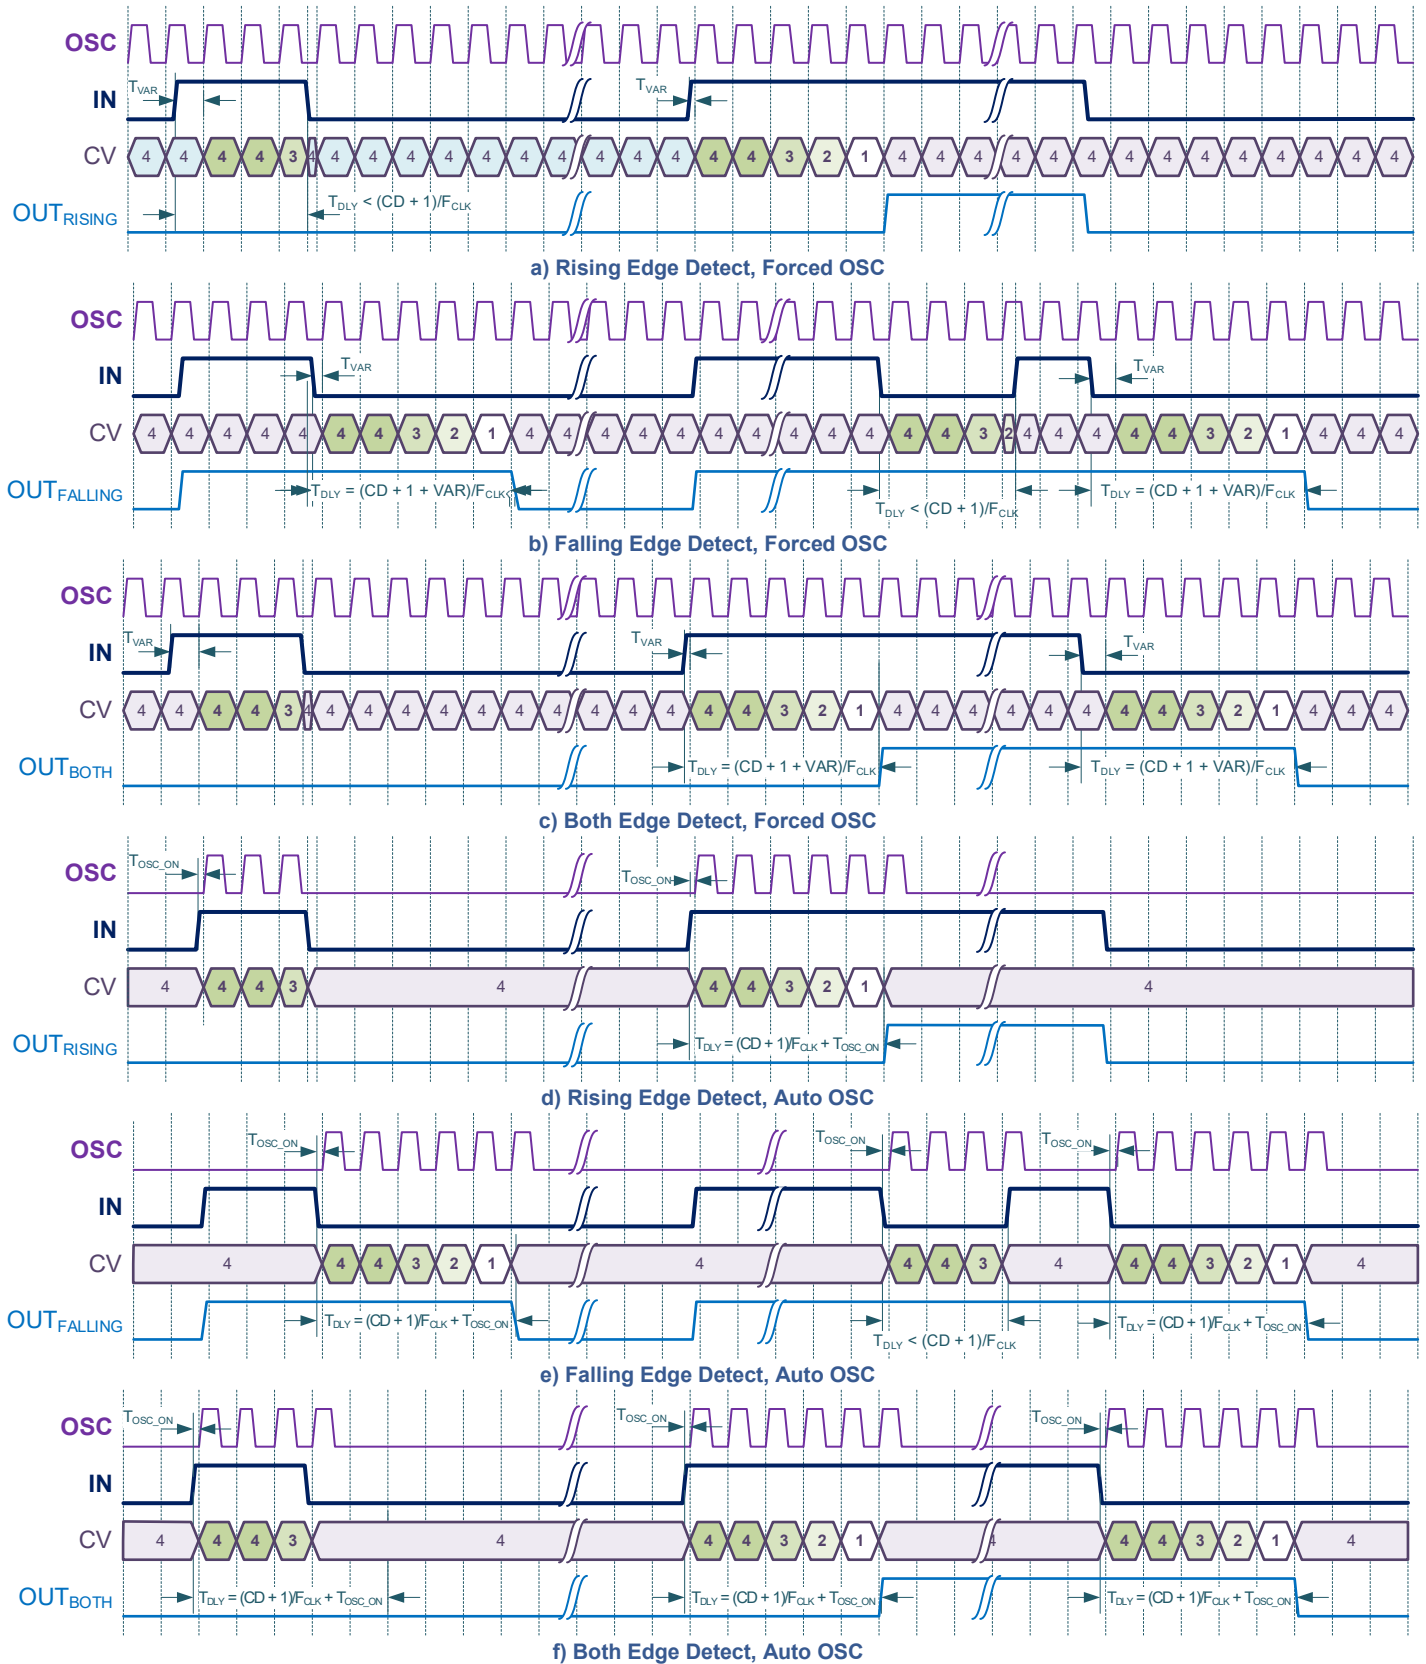

Figure 8.5. Delay Mode (Control Data: 4)
In Delay mode, the TMR delays the input signal by the selected edge event (rising edge, falling edge, both edges) for a time determined by the Control Data, input clock signal, and selected prescaler value. If input signal is shorter than the delay value, the signal does not propagate to the output. The timing diagrams of this mode are shown in the Figure 8.5.
- Delay (Figure 8.5)